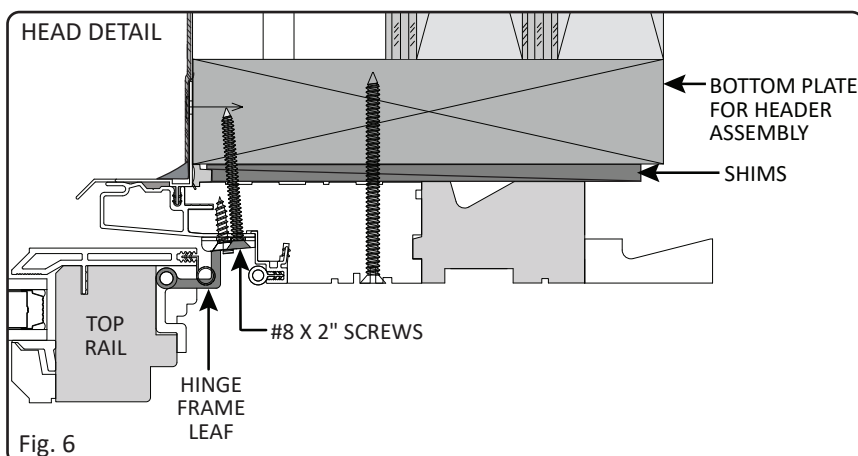

Fig. 6
6. **(Fig. 6)** Open the sash to access the screws in the hinge frame leaves at the head jamb.